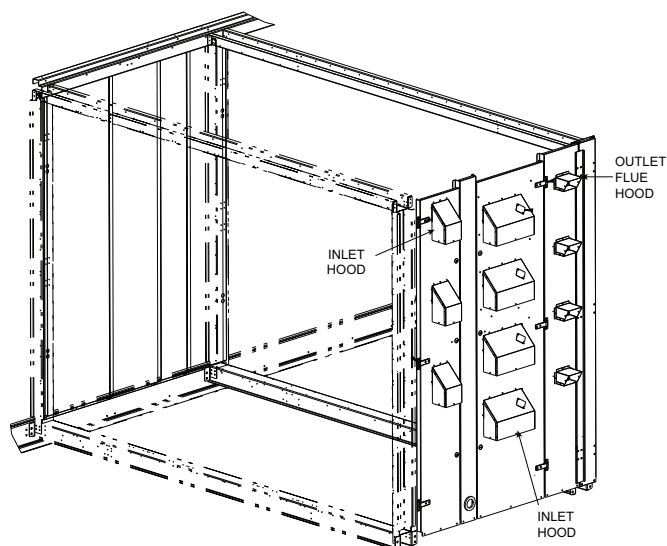

Fig. 29 — Flue/Inlet Hood Locations
The hoods are to be installed on the heating section access panel as shown in Fig. 29. See Table 8 for a list of parts used to assemble each hood and quantities of each hood type used with each unit.
2. Attach flue outlet hoods (see Fig. 29) to access panel using screws provided. Hoods are placed over each combustion outlet.